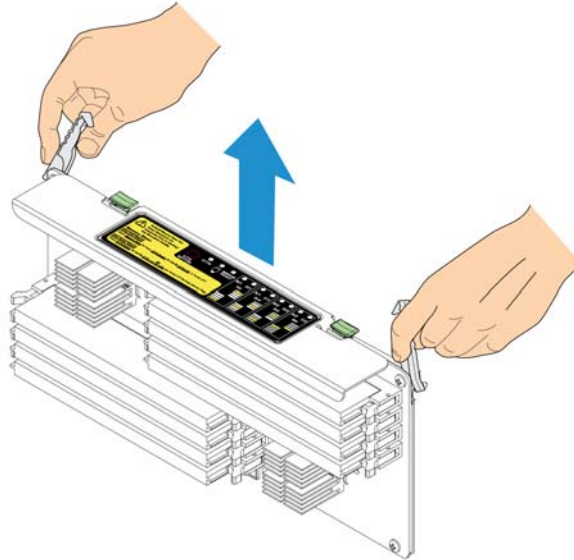

Figure 55. Removing a memory riser
5. Lift the memory riser by the levers of the memory bracket to pull it from the server as shown in Figure 55.